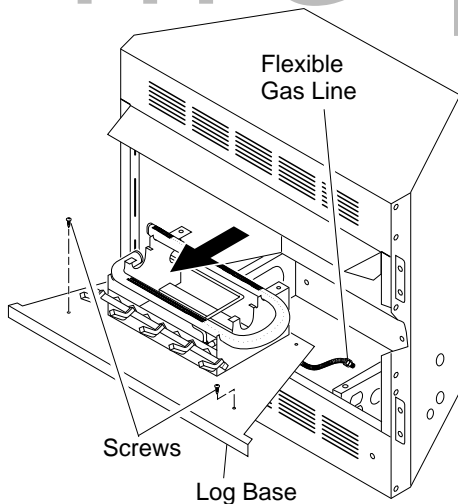

Figure 1 - Removing Log Base from Fireplace
3. Remove screws that attach log base assembly to fireplace (do not discard). Carefully lift up log base assembly and remove from fireplace, taking care to pull flexible gas line through the access holes (see Figure 1).